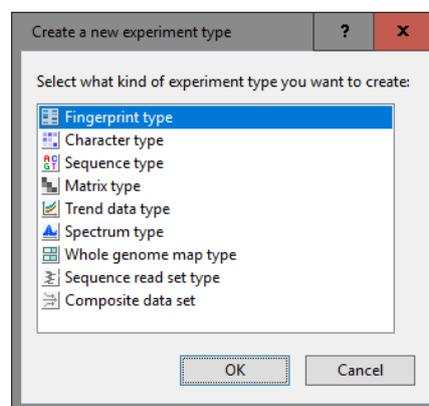

Figure 4: Create new fingerprint type experiment.
6. In the *Main* window, click on  in the toolbar of the *Experiment types* panel and select **Fingerprint type** from the list (see Figure 4).